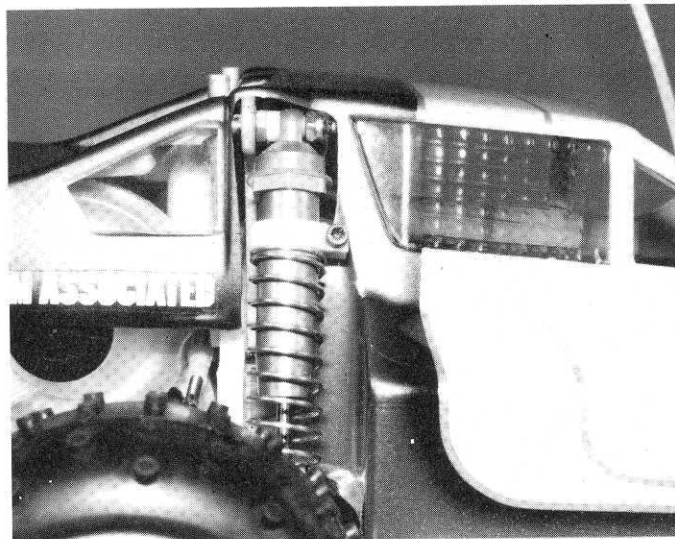

Fig. 133
□ **Fig. 133** Trim a little of the body and slip it on. Keep trimming a little at a time until it clears the shocks. Cut out the body mount hole and the 2 wing tube holes. When you've got the body fitted, it's time to paint the body and wing. The body is painted on the inside and the wing is painted on the underside. There are 2 different ways to paint the body. By either brushing it on or spraying it on. The body is made of Lexan polycarbonate. In hobby shops, you can find special Lexan or polycarbonate paints made for these type bodies, to brush on. Do not use any other type brush-on paints. If you want to spray it on, one of the best type of spray paints for Lexan or polycarbonate is Pactra, available in most hobby shops.